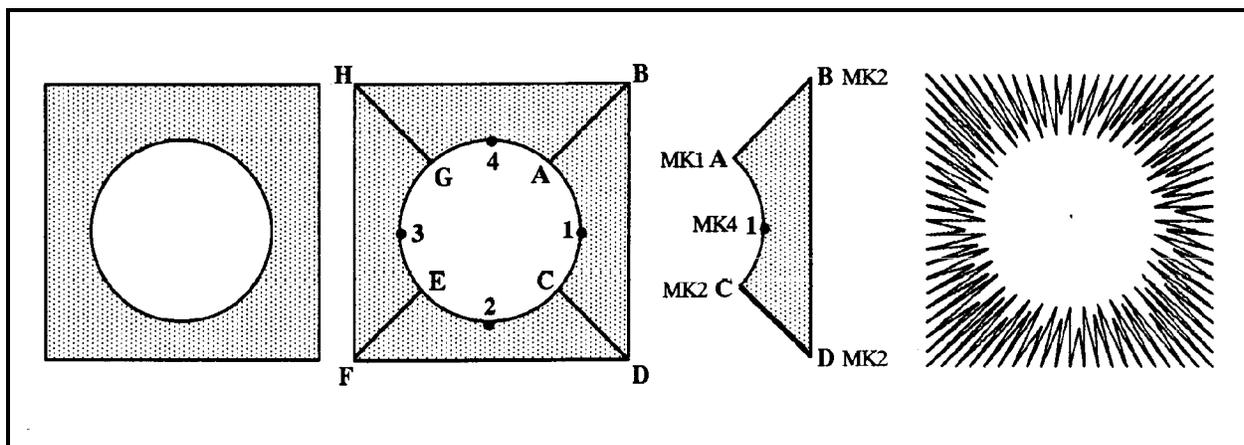

Figure 6-49
Another sample of curve smoothing is shown in Figure 6-49. Suppose you wanted to digitize column stitches in the shaded area of the shape shown at the left in Figure 6-49.
1. Plot the shape by dividing it into four similar sections as shown in the second from left illustration in Figure 6-49.
6. Continue this process until all four sections are digitized. You will get a result similar to the illustration at the right in Figure 6-49.